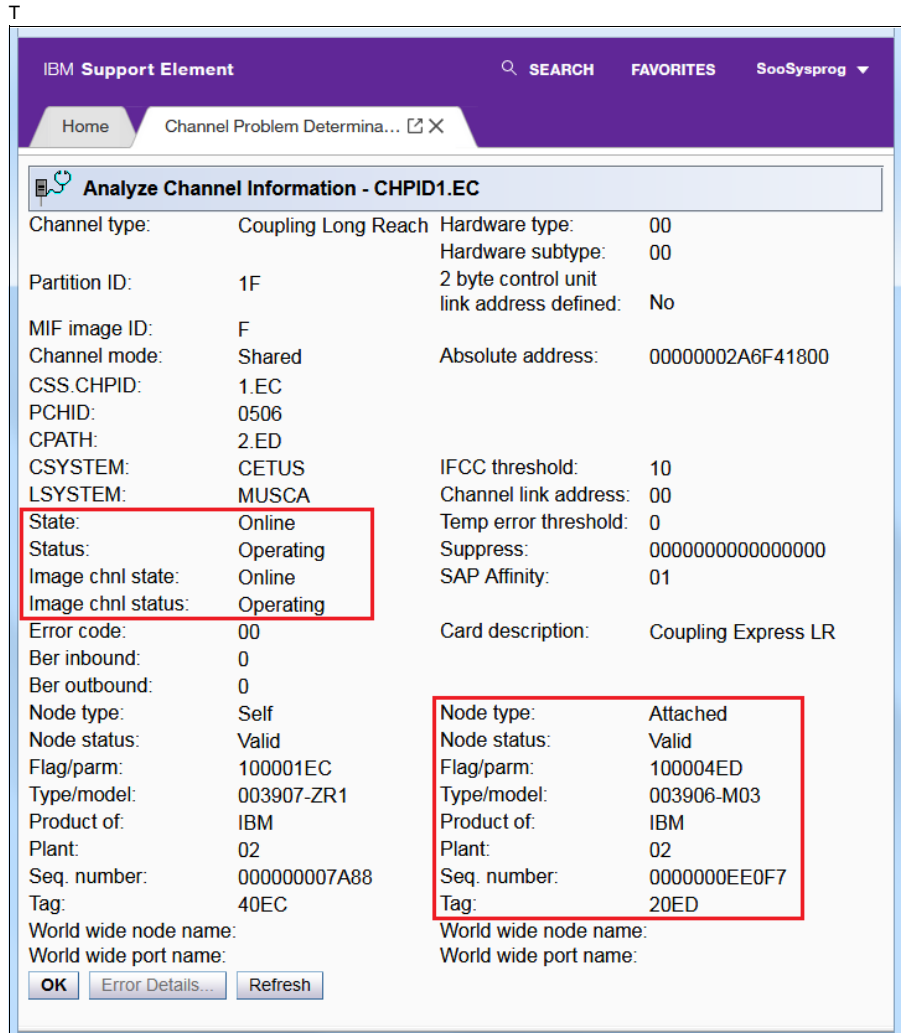

Figure 5-36 Channel Problem Determination: display
15.Observe the following information (see Figure 5-36 on page 112):